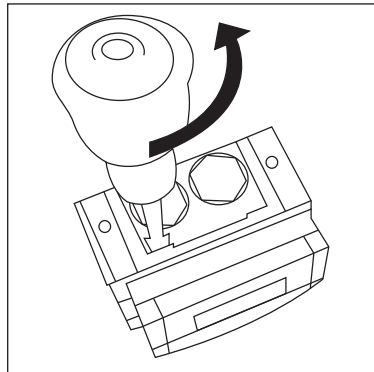

Fig 3 Cover removal
6. To remove the cover, undo and remove the four cover fixing screws and release the four retaining clips. To do this place a large flat bladed screwdriver into the slot between the cover and backbox and gently twist until the clip disengages (Fig 3). Repeat this for the three remaining clips and pull the cover away from the backbox.